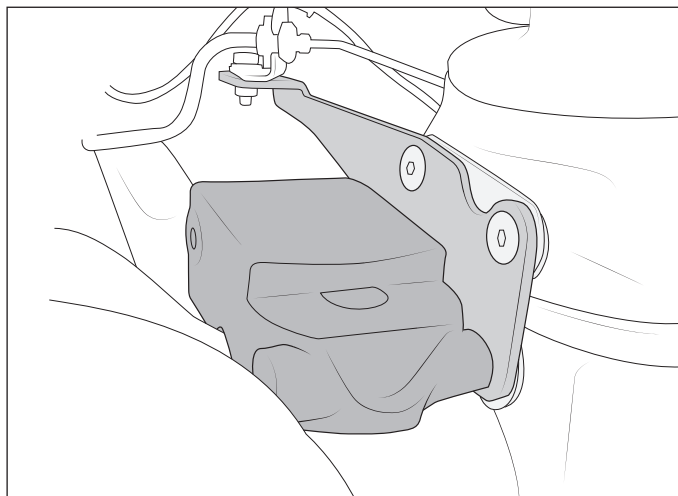

Figure 26
- b. Place the bump stop/bracket assemblies on the axle and start the bolts into the coil spring mounts. Secure with M10 X 25 countersink bolts and lightly snug to align (fig. 26).